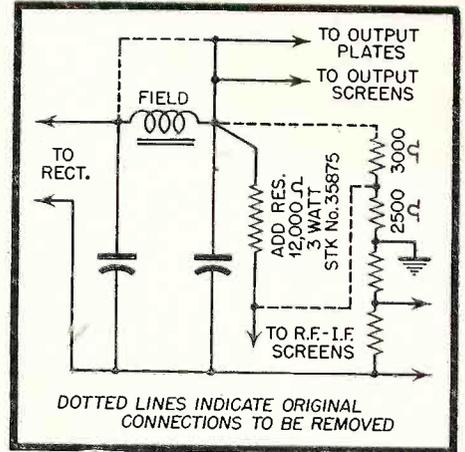

Figure 3
R.C.A. suggests repairing the above receivers, where the bleeder resistor is defective, in the following manner. Refer to Fig. 3. Procedure: